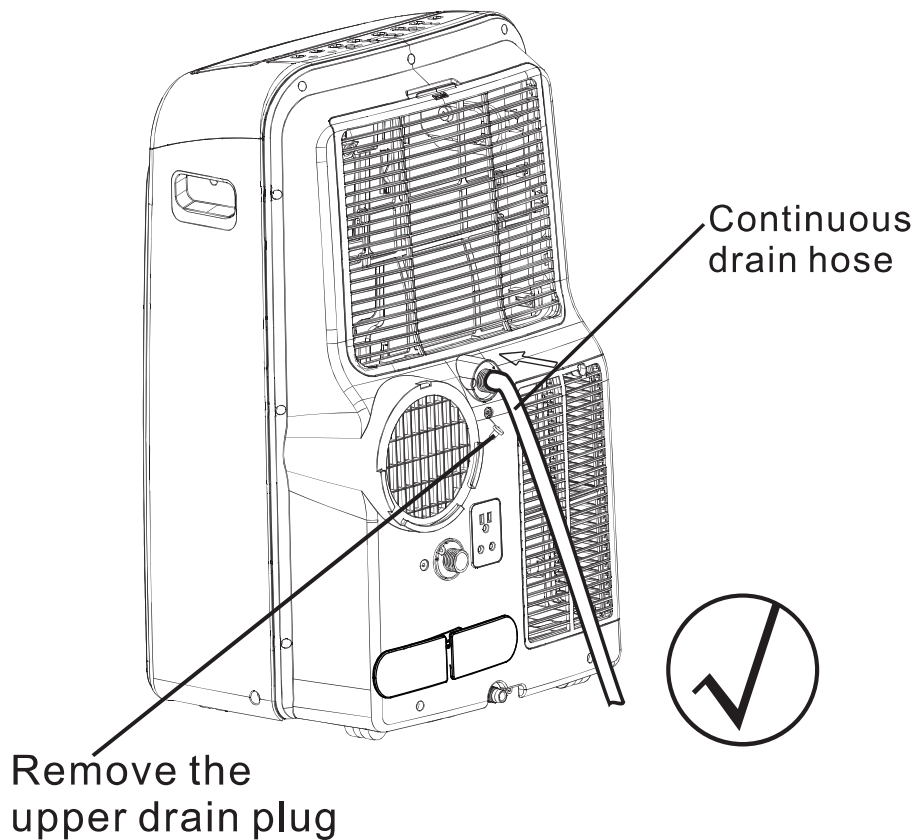

Figure 17a
1. During dehumidifying modes, remove the upper drain plug from the back of the unit, install the drain connector (5/8" universal female adapter) with 3/4" hose (not included). For the models without drain connector, just attach the drain hose to the hole. Place the open end of the hose directly over the drain area in your basement floor. Please refer to Fig.17a.
NOTE: Make sure the hose is secure so there are no leaks. Direct the hose toward the drain, making sure that there are no kinks that will stop the water from flowing. Place the end of the hose into the drain and make sure the end of the hose is down to let the water flow smoothly. (See Fig. 17a, 17b, 18a). Do not angle the hose upward. (See Fig. 18b).